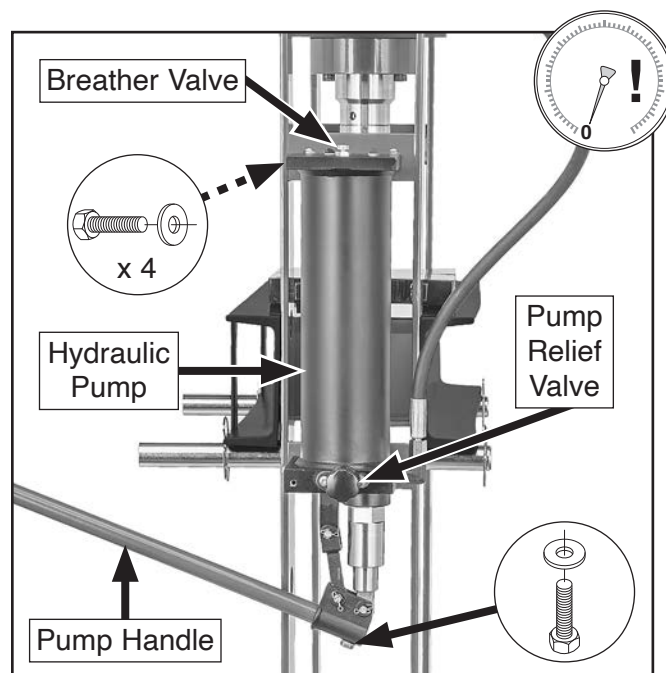

Figure 31. Location of hydraulic system components.
1. Rotate breather valve and pump relief valve counterclockwise to release hydraulic system pressure (see **Figure 31**).
2. Remove hex bolt and flat washer securing pump handle (see **Figure 31**), then remove handle.
3. Remove (4) hex bolts and flat washers securing hydraulic pump (see **Figure 31**), then place hydraulic pump in drain pan.